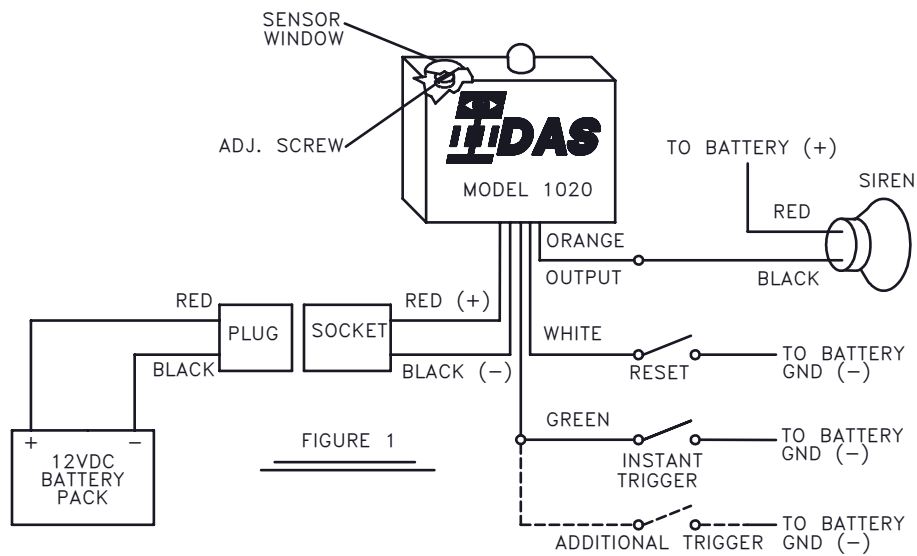
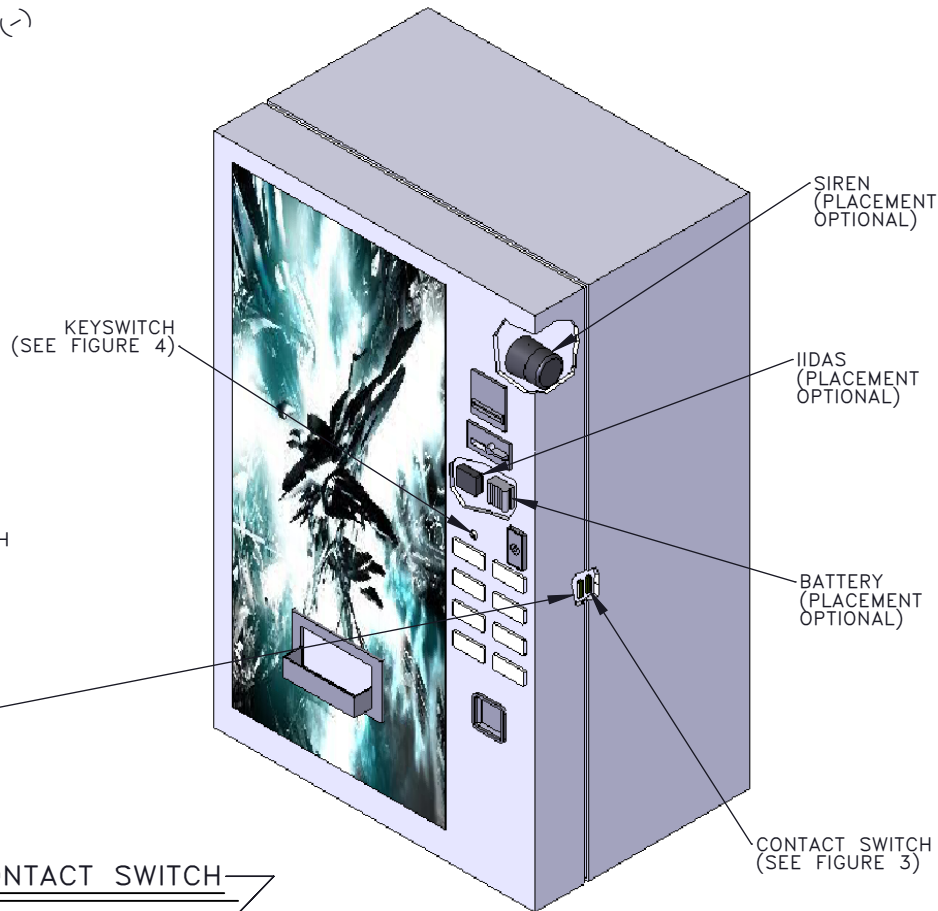

FIGURE 1
FIGURE 2
The *IIDAS*® impact/abuse sensor is designed to detect severe impact, unwarranted abuse, or abrupt rocking. After installation, if it is necessary to adjust the impact sensitivity, remove the sensor window (see Fig. 1) from the *IIDAS*® **Controller**, and with a small flat-head screwdriver simply turn the screw, in one-half turn steps, clockwise to increase the impact sensitivity and counter-clockwise to decrease the impact sensitivity. Whenever the impact/abuse sensor is triggered *IIDAS*® will instantly alarm for approximately 30 seconds and then reset automatically. The alarm output may be shortened or lengthened at BRW's factory. Whenever *IIDAS*® is triggered again, during an alarm cycle, it will restart its 30 second alarm output. Whenever *IIDAS*® is triggered by a door being illicitly opened it will instantly alarm for approximately 30 seconds and then reset automatically.
***IIDAS*® CONTROLLER:** Remove the two-sided tape backing from the *IIDAS*® **Controller** and attach it to a clean surface on the inside the vending machine's door with the *IIDAS*® LED facing upwards (see Fig. 2). For best performance attach near the lock assembly.
SIREN: Remove the two-sided tape backing from the siren and attach to a clean surface on the inside of the vending machine (see Fig. 2). Use the siren's mounting bracket if possible.
RESET SWITCH (System 103DA): The magnetic contact assembly is used to disarm *IIDAS*® when the service door is opened. Remove the two-sided tape backing and locate a space on the inside of the vending machine's door and attach the switch portion; then attach the magnet portion inside the vending machine, on the door's frame, parallel to the switch. The maximum gap between the switch and the magnet should be no more than ½ inch. Use the spacer or the plastic "L" bracket if necessary. Check installation with a meter to insure proper alignment (Door Open = closed, Door Closed = open). (See Fig. 2).
WHITE WIRE (Reset): For *System 103DA*, attach the white wire on the *IIDAS*® **Controller** to either one of the wires on the switch portion of the magnetic contact assembly. Attach the other wire of the switch portion to the black wire (-) on the battery (see Fig. 2 & 3). For *System 103KA*, attach the white wire on the *IIDAS*® **Controller** to the white wire on the key lock, then attach the black wire on the key lock to the black wire (-) on the battery (see Fig. 1 & 4).
ORANGE WIRE (Alarm Output): Attach the orange wire of the *IIDAS*® **Controller** to the black wire on the siren. Then attach the red wire on the siren to the red wire on the battery (see Fig. 1).